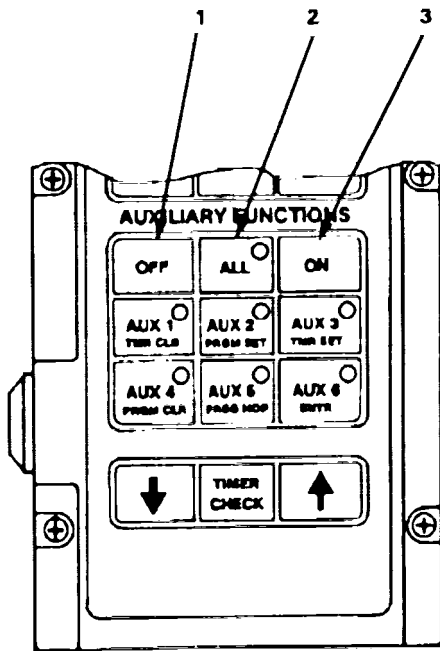

Figure 2-7. T/C Auxiliary Function Switches (Sheet 1 of 2)
c. Auxiliary Functions. (See Figure 2-7.)
- (1) OFF Switch. Disables the auxiliary functions selected by ALL or AUX 1 through AUX 6 switches.
- (2) ALL Switch. Selects all auxiliary functions simultaneously when the ON switch is depressed.
- (3) ON Switch. Enables the auxiliary functions selected by ALL or AUX 1 through AUX 6 switches.